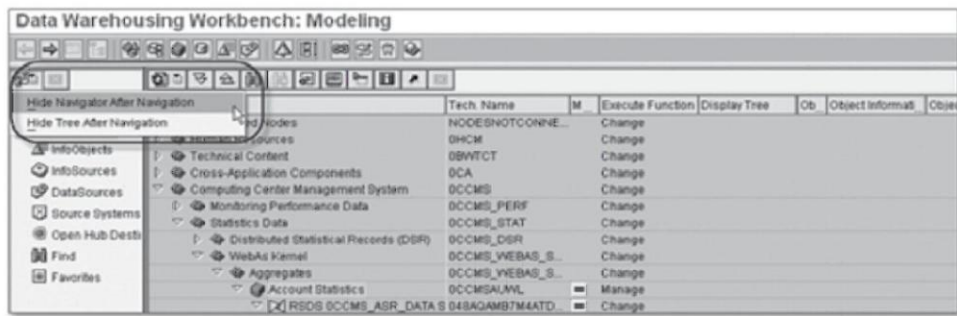
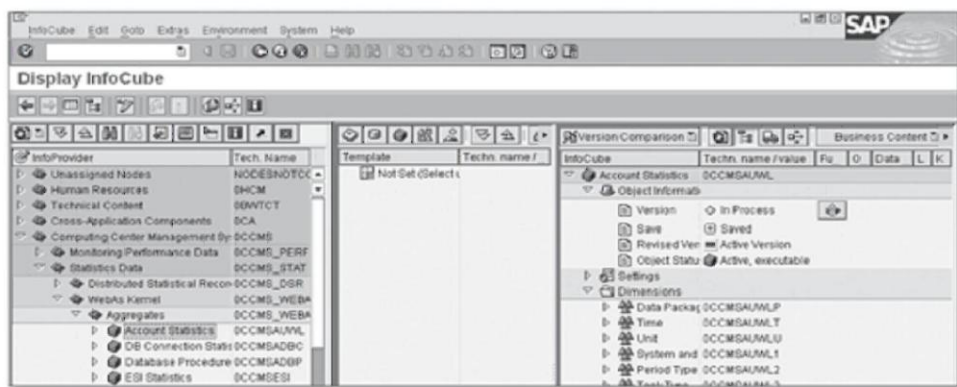

Figure 2.12 Hide/Unhide Navigator
Figure 2.13 Hidden Navigator
You have the option of hiding or unhiding the navigator or tree. These settings are visible after clicking the Setting List icon (❻) (Figure 2.12). Hiding the navigator or tree after navigation is useful if you want to free up some of the display space on the screen (Figure 2.13).